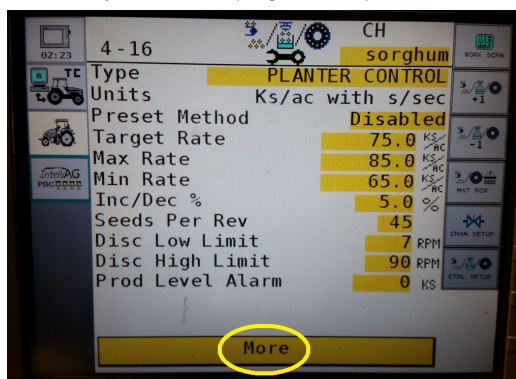

Figure 19
Step 14. Select **More** at bottom of page. This will take you to next page of data that may be set. (Figure 19)